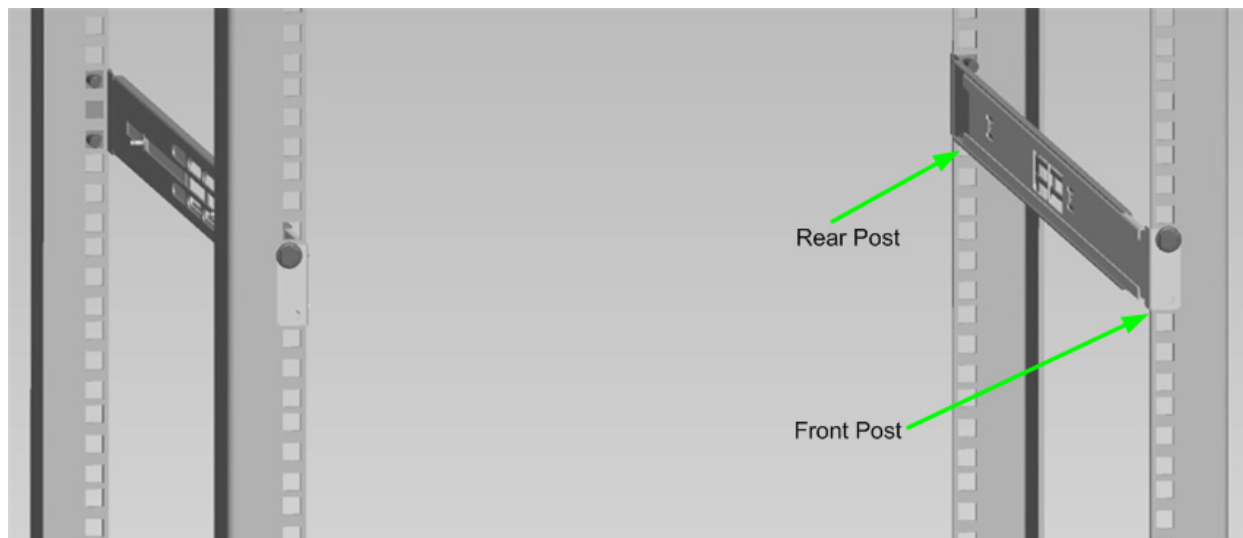

Figure 1-4. Installing the Rack Rails
2. Install eight (8) cage nuts into rack posts, two (2) cage nuts per post. Install the mounting rails and fasten to cage nuts using six (6) M6 screws. Torque screws to 30in-lb. Do not install two (2) screws in lower locations on equipment installation side of the rack until the switch is installed in the rack. Note the orientation of mounting rails in Figure 1-4. The rails are shown from the front side of the rack for 12300 or from the port side of the rack for 12200.